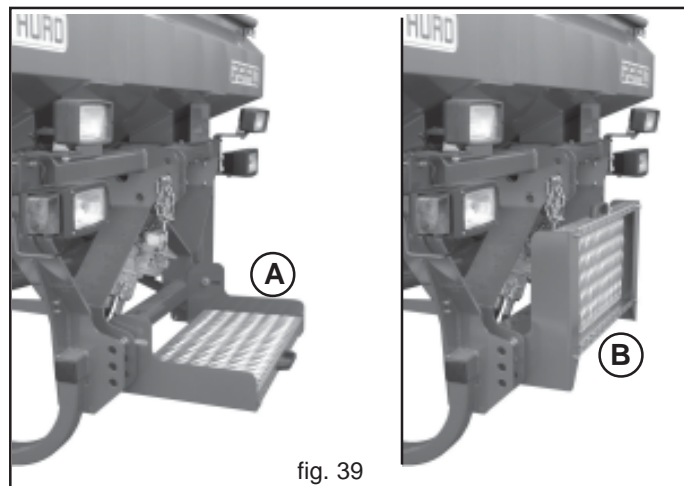

fig. 39
In the event of manual loading, use the platform (A, Fig. 39) to reach the hopper of the equipment.
Always fold the platform as shown in Figure 39 (B) during the work and during road transport.